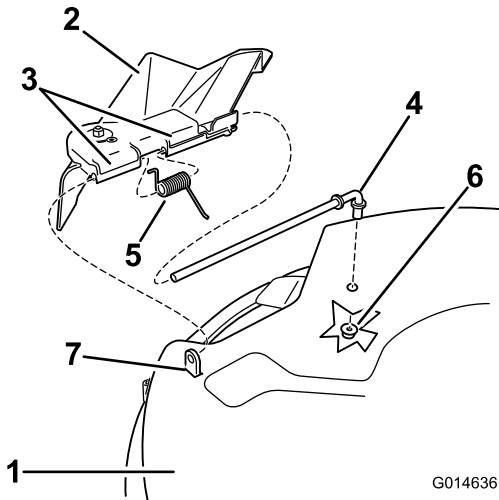

Figure 57
1. Locate items shown in Figure 57.
2. Remove the nut (3/8 inch) from the rod under the mower (Figure 57).
3. Slide the rod out of the short stand-off, spring, and grass deflector (Figure 57).
5. Replace the grass deflector (Figure 57).
7. Place the spring on the rod, with end wires down, and between the grass deflector brackets. Slide rod through second grass deflector bracket (Figure 57).
9. Secure rear end of rod into the mower with a nut (3/8 inch) as shown in Figure 57.